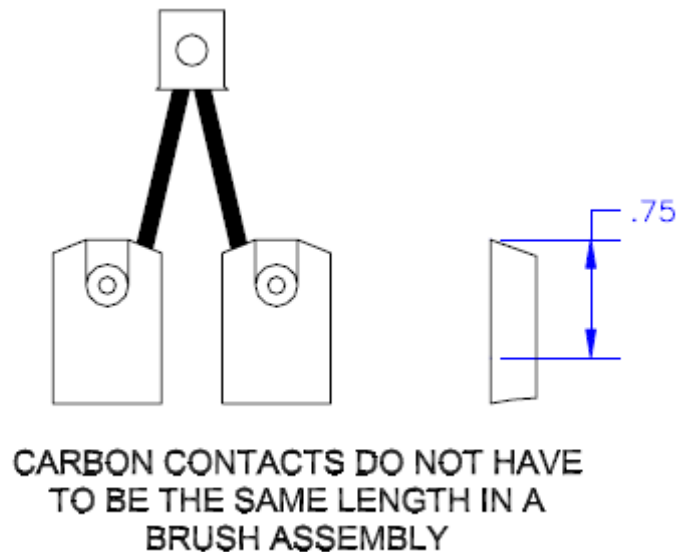

FIG. 3
9.7.3. Measure each brush contact from the center top to the seating area. If any brush contact is shorter than 0.750 (3/4) inches or displays unusual wear patterns replace all brushes. Brushes are not sold individually, order Kit P/N: Z6386AK, note: each individual brush assembly has two leads and two carbon contacts attached to one terminal lug (see FIG. 3 & 3A). Each kit contains 4ea assemblies.